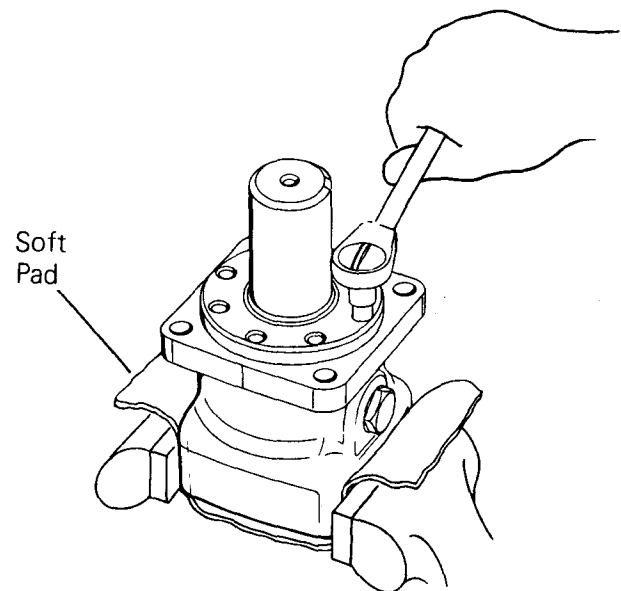

Figure 7
- 20 Place bearing housing in vise, as shown in Figure 7. Loosen 8 cap screws (5/16") in retainer.
8 Lubricate threads of 8 cap screws with a light film of oil. Install and finger tighten screws. Place unit in a vise, as shown in Figure 7. Tighten cap screws to 192 inch pounds of torque--in the sequence shown in Figure 13.